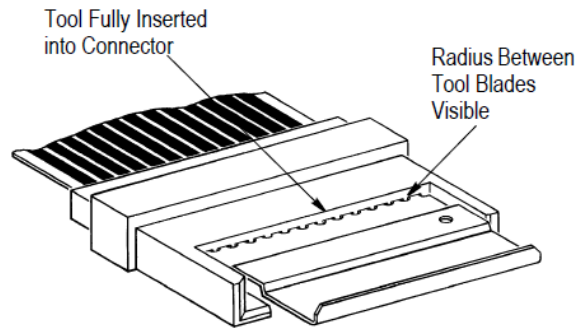

Figure 3
2. Simultaneously insert all tool blades straight into the connector until the tool bottoms. **Note:** Only the radius between the tool blades should be visible when the tool is properly seated (see Figure 3).